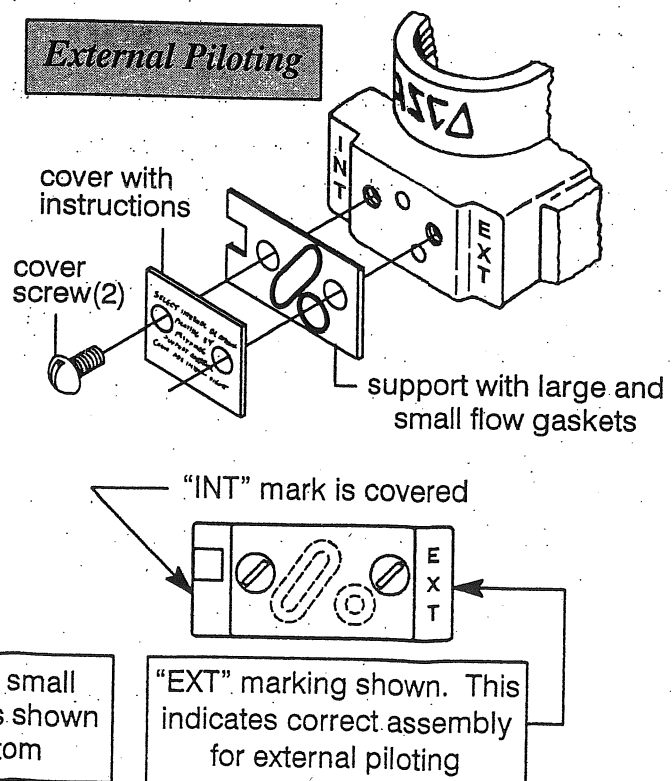

Figure 2. Positioning of support with flow gaskets for external piloting mode.
2. Refer to views in Figure 2 for proper location and position of parts for **External Piloting Mode** of operation.
4. Line up support (with flow gaskets) on side wall of valve body using machine screw holes as a guide. When support is correctly positioned (as shown in Figure 2.) the letters EXT are visible and letters INT on opposite side are covered by the support. Confirm proper alignment with views in Figure 2. Then replace cover and cover screws. Torque screws evenly to 13 ± 1 in-lbs [1.5 ± 0.1 Nm].